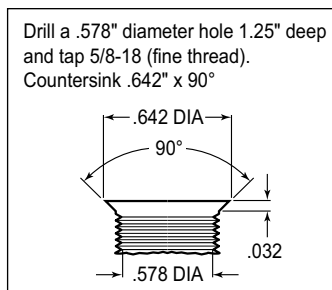

Figure 3. Drill and Tap Detail
•**NOTE:** Some spindles in this year range may require the following modifications (reference Figure 1 and Figure 3): Top anchor pin hole (Z) must be drilled and tapped to the dimensions as outlined in Figure 3. The lower bolt hole (Y) in the spindle used to mount the new caliper bracket, and the mating steering arm hole, must be enlarged to .50" by drilling. It is recommended these modifications be performed by a qualified machinist.
•Install wheel studs (12) into the hub (13), Photo 1. Torque to 77 ft-lb. **NOTE:** There are two five lug patterns in the hub (5 x 4.50 and 5 x 4.75). Make sure of the correct hole pattern for the correct wheel application before installing studs into hub.
•Pack the large inner bearing cone (14) with high temperature disc brake bearing grease (available from your local auto parts store) and install into the backside of the hub (13).
•Install the grease seal (15) by pressing into the backside of the hub (13), Photo 2.